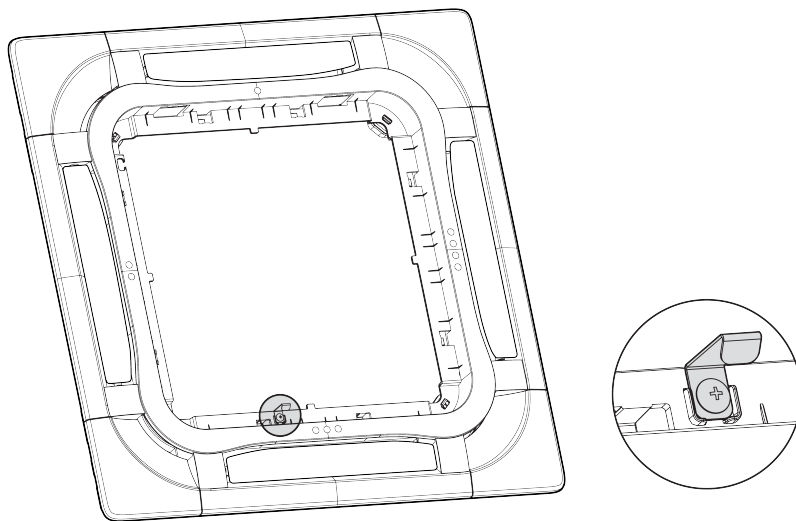

Fig.4.5.7
- (7) Tighten the “J”-shape hook in the accessories on the panel with screws, please refer to Fig.4.5.7.